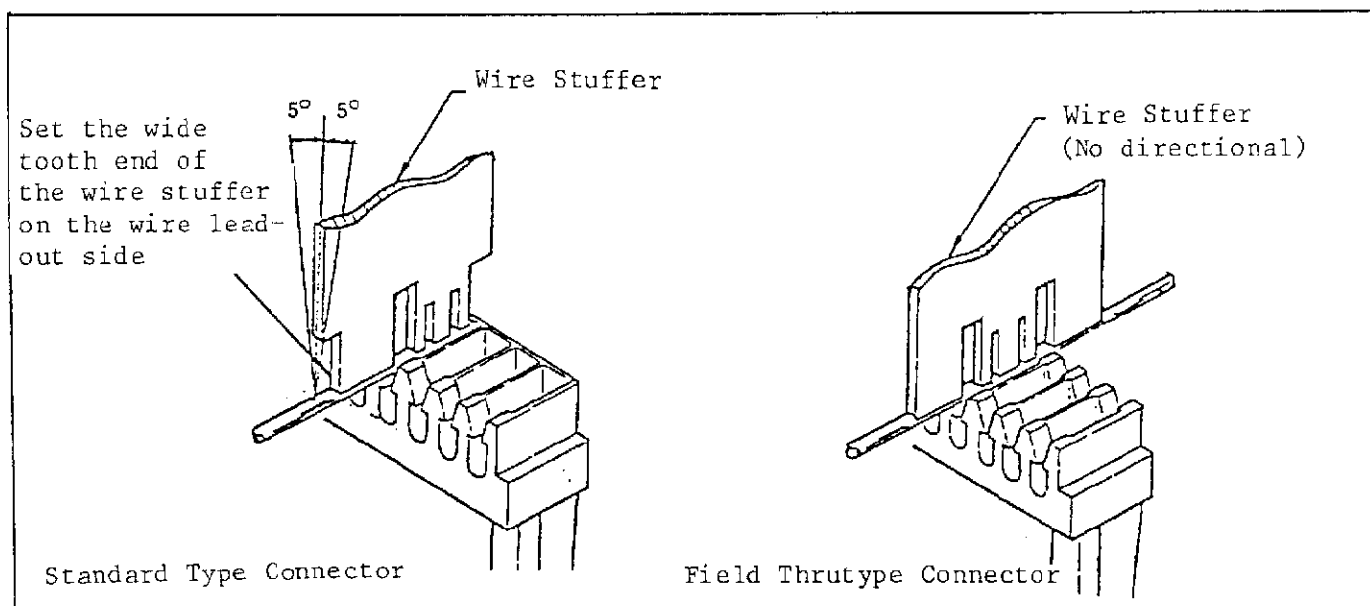

Fig. 4
- 3.5 Hold the handle upright (within $\pm 5^\circ$) in respect to the connector (Fig. 4), and press it down at a certain speed until the wire is fully set on the bottom of the contact cavity while lowering it gradually to a horizontal position from the approximately 10° inclined position.